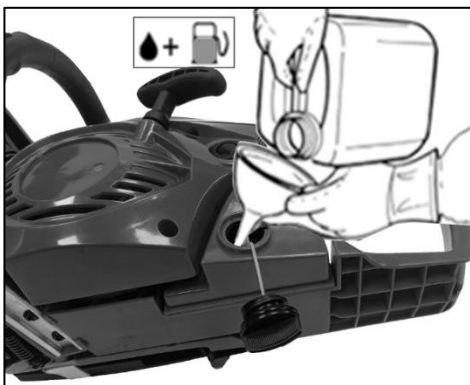
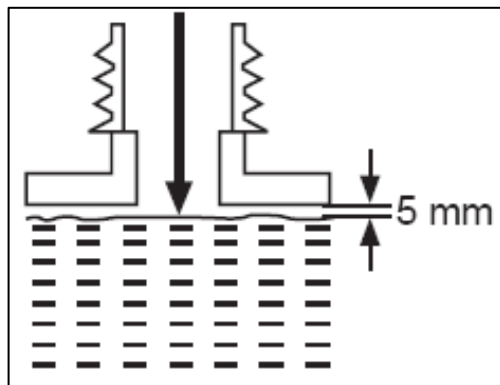

Fig.14
Fig. 15
- 4) Fill correctly mixed fuel into the fuel tank (Fig.14). Do not overfill and leave approximately 5 mm of space between the top of the fuel and the inside edge of the tank to allow for expansion. (Fig.15)